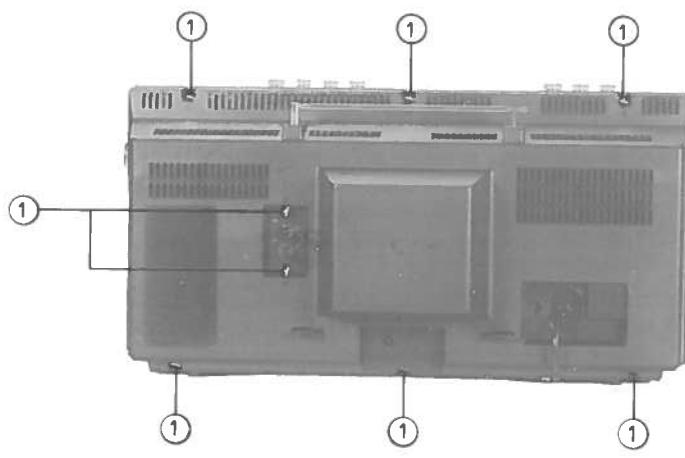
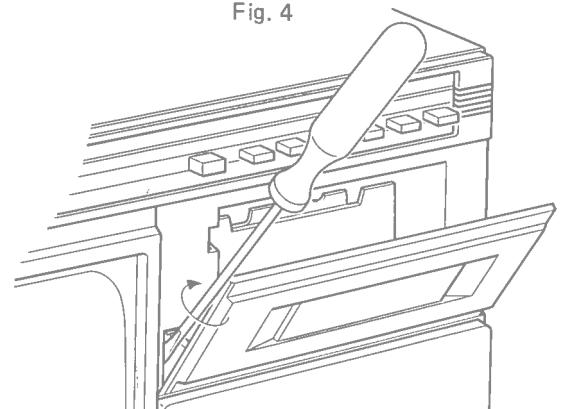

Fig. 3
Fig. 4a
**1. Removal of backcover (refer to Fig. 3)**
- Take off eight screws ① .
- Remove tuning knob ② and four control knobs ③ .
- Remove nine screws ④ .
**3. Removal of cassette compartment lid (refer to Fig. 4a)**